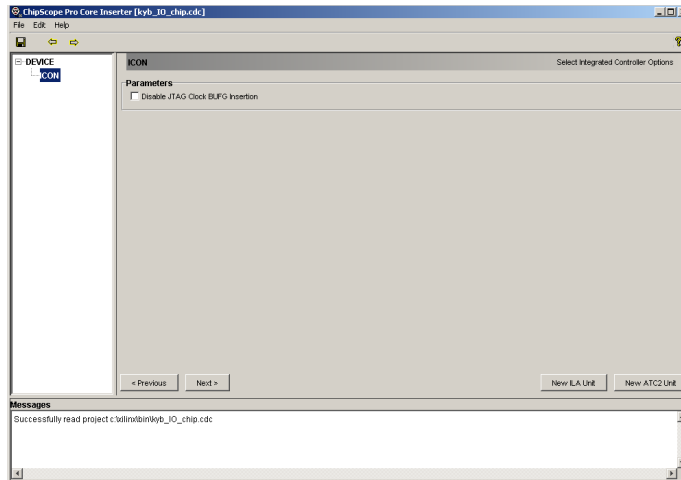

Figure 14
22. Click on “New ILA Unit” to create add a logic analyzer core into your design. (Figure 14)